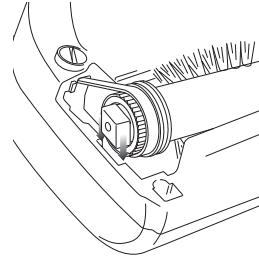

fig. 17
- 2 Align the white square on the belt side and position into its slot. (fig. 17)